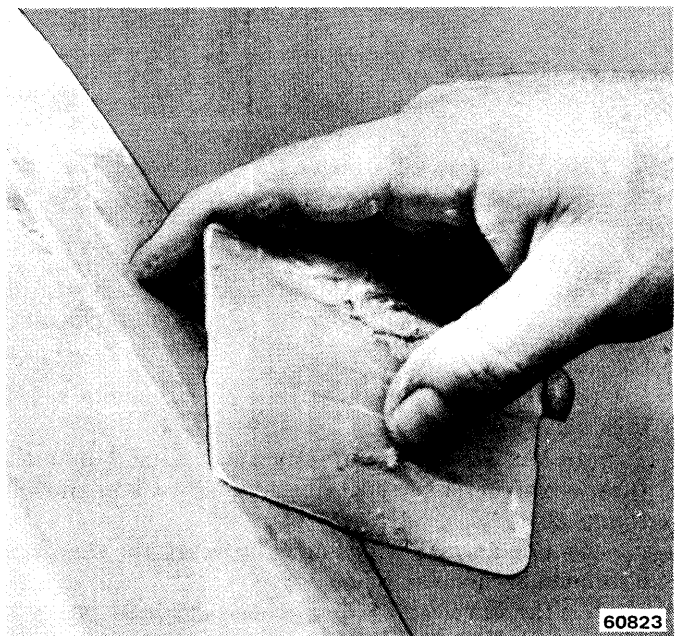

Fig. 20-2 Applying Plastic Body Filler with Spreader
(2) Apply plastic body filler, such as DuPont Polyester Autobody Filler, Ditzler White Body Filler, 3M Plastic Filler or equivalent. For best results, mix plastic body filler and hardener according to manufacturer's instructions.
(3) Apply plastic filler with a rubber or plastic spreader as shown in figure 20-2. Use firm pressure with spreader to aid in removing air bubbles which will show up as pinholes.